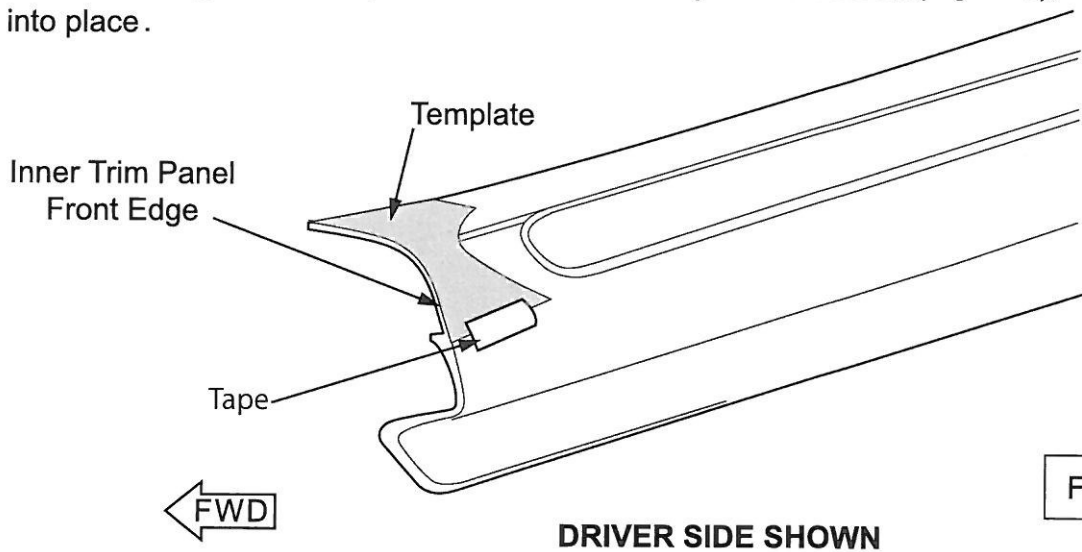

Figure 2
B. Align the bottom edge of the Template with the bottom edge of the door sill (Figure 2).